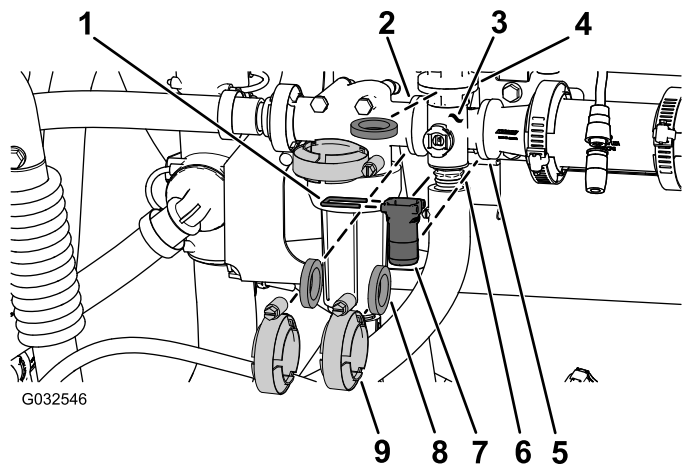

Figure 97
1. Remove the clamps, gaskets, quick connect, and quick-connect pin that secure the manifold for the agitation valve to the agitation-bypass valve, pressure-filter head, reducer coupling, and adapter fitting (agitation-throttle valve) as shown in Figure 97.